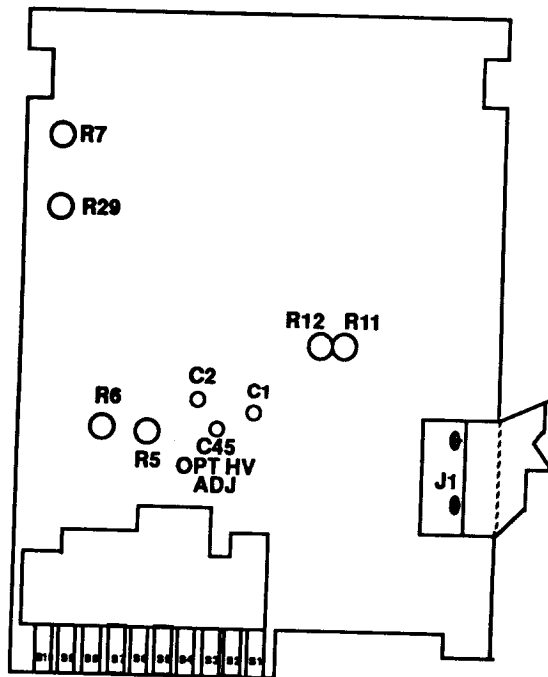

Figure 1. Adjustment locations.
- (1) Adjust R12 (fig. 1) for a TI indication of 190.00 (R).
- (2) Adjust R11 (fig. 1) for a TI indication of 1.9000 (R).
- (3) Adjust R5 (fig. 1) for a TI indication of 190.00 (R).
- (4) Adjust R6 (fig. 1) for a TI indication of 1000.0 (R).
- (1) Set TI range to 2 and calibrator for a 1.9 V, 45 Hz output. Adjust R7 (fig. 1) for a TI indication of 1.9000 ( $\pm 5$  digits) (R).
- (2) Set calibrator for a 100 mV, 45 Hz output. Adjust R29 (fig. 1) for a TI indication of .1000 ( $\pm 1$  digit) (R).
- (3) Repeat (1) and (2) above until no further adjustments are required.
- (4) Set TI range to **20** and calibrator for a 19 V, 10 kHz output. Adjust C1 (fig. 1) for a TI indication of 19.000 ( $\pm 10$  digits) (R).
- (5) Set TI range to **200** and calibrator for a 100 V, 10 kHz output. Adjust C2 (fig. 1) for a TI indication of 100.00 ( $\pm 5$  digits) (R).
- (6) Repeat (4) and (5) above until no further adjustments are required.
- (7) Set TI range to **750 V AC** and calibrator for a 750 V, 10 kHz output. Adjust C45 OPT HV ADJ (fig. 1) for a TI indication of 750.0 ( $\pm 10$  digits) (R).
- (8) Repeat (4), (5), and (7) above for the best compromise or until no further adjustments are required.